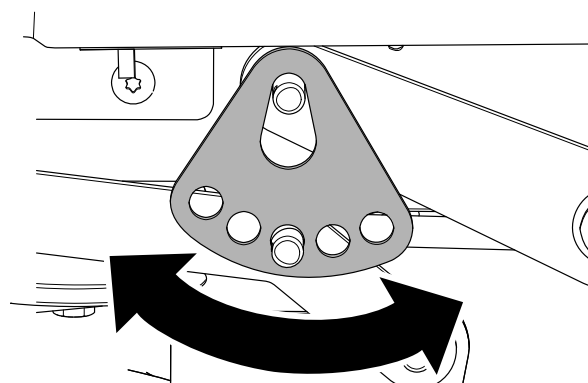

**Figure 60**
6. Remove the hairpin cotter and washer from the lower lift-arm pin (Figure 60).